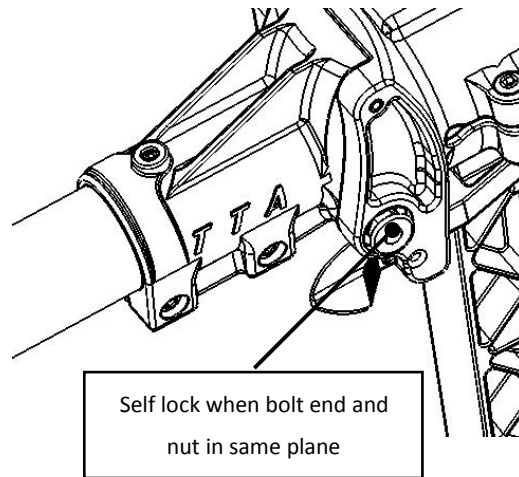

figure 11
- 5) Lock the plug screw with a M5 nut from the other side, the bolt end should be the same as the nut, that means lock works, as Figure 11